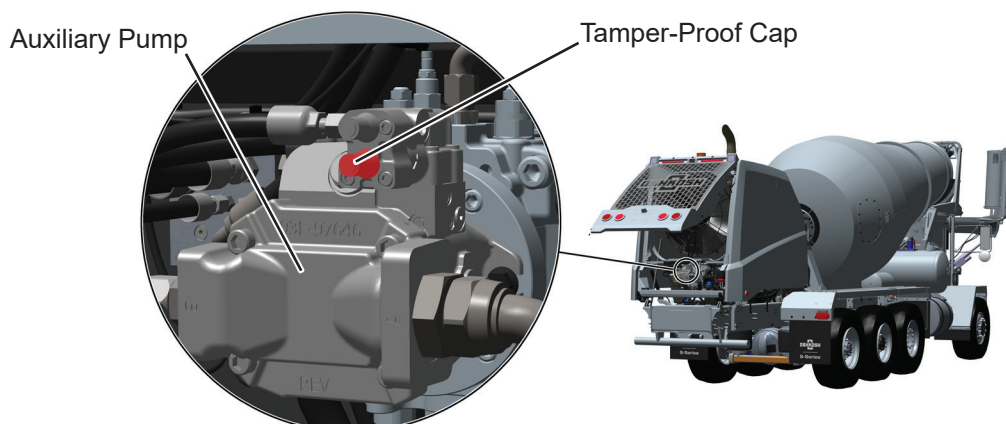

Figure 2 - Auxiliary Pump
5. Locate auxiliary pump. See Figure 2.